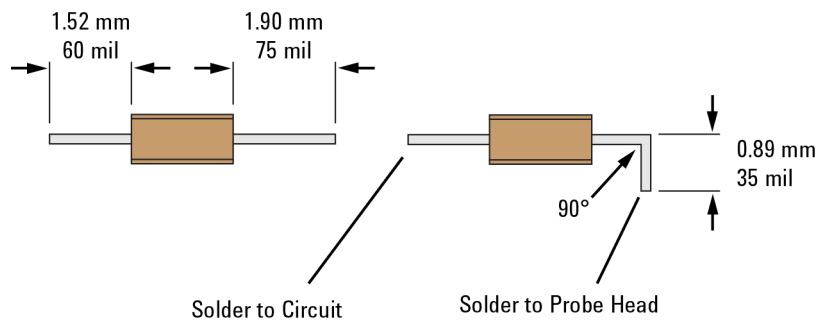
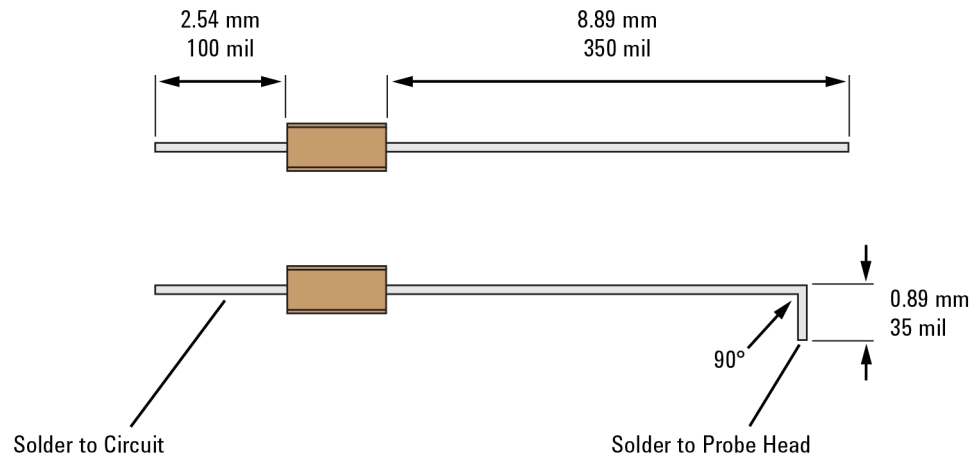

Figure 104 91Ω and 0Ω Combination Resistor Trim Dimensions
Figure 105 150Ω and 0Ω Combination Resistor Trim Dimensions
- 9 Using another pair of tweezers, bend the 1.90 mm or 8.89 mm lead 90° as shown in **Figure 104** and **Figure 105**.